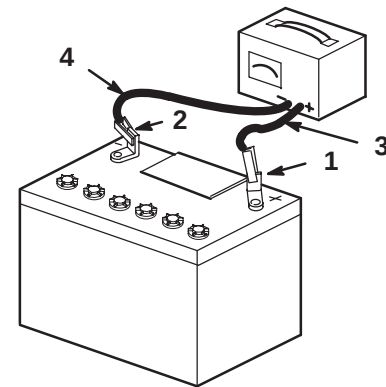

Figure 59
8. When the battery is fully charged, unplug the charger from the electrical outlet, then disconnect the charger leads from the battery posts (Fig. 59).